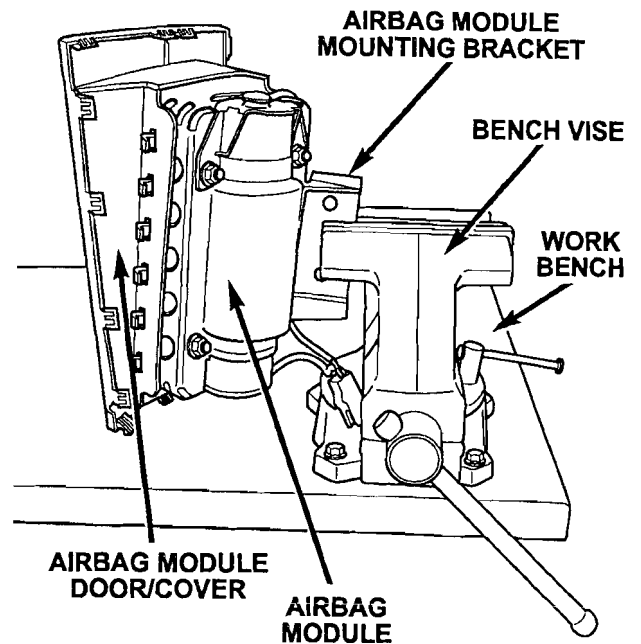

Figure 5
- 9. Mount the airbag assembly in a bench vise as shown in Figure 5.